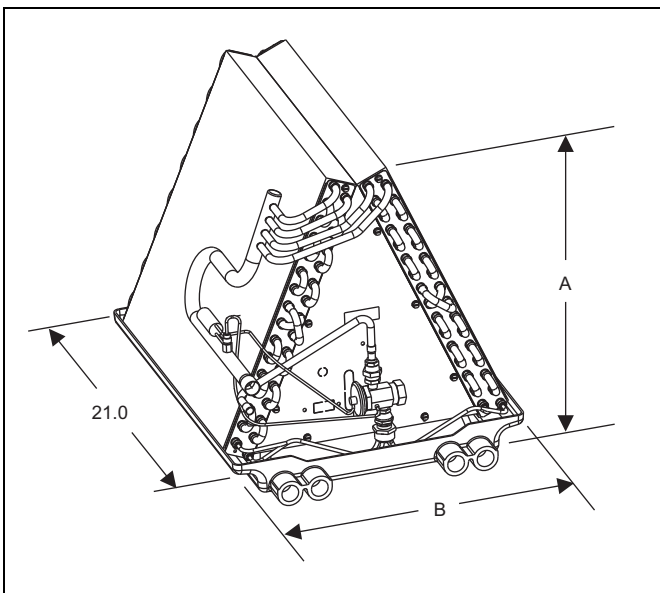
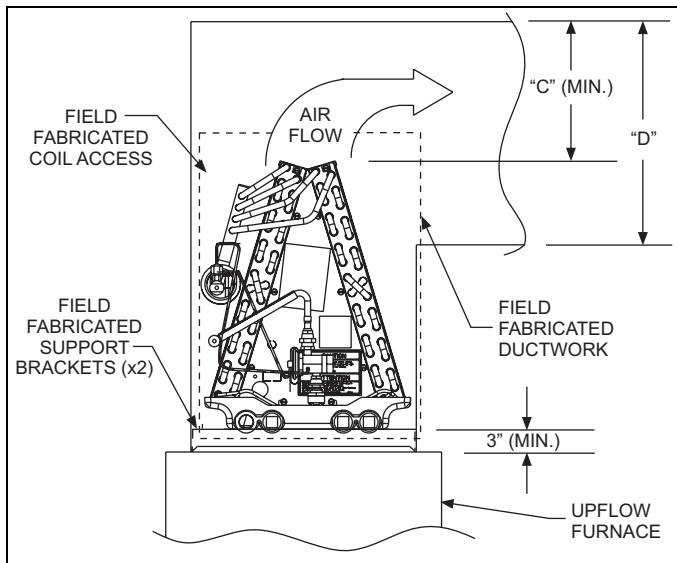

FIGURE 2: Coil - UC
FIGURE 5: Upflow Coil Installation
1. Create opening in furnace duct large enough to allow coil installation (See Figure 5). See Figure 2 for coil dimensions.
2. Install field fabricated support brackets using screws or rivets (See Figure 5). Brackets should be installed level or pitched slightly toward the drain end (high in the back, low in the front). Pitch should not exceed 1/4" per length of coil.
3. Position the coil over the furnace opening as shown in Figure 5.
Do not drill any holes or drive any screws into the front duct flange on the coil in order to prevent damaging coil tubing (see Figure 5).
Dimension "C" should be at least 2/3 of dimension "D". See Figure 5.